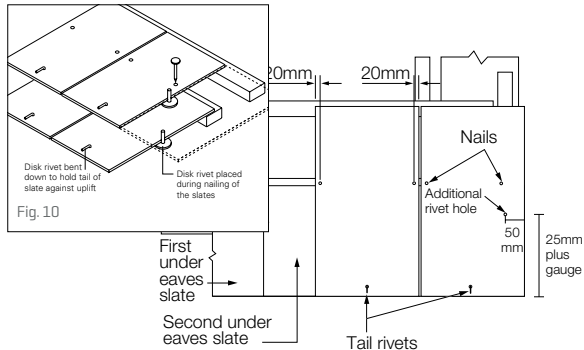

Fig. 8 - 1st course of standard slates
- 5 Fix the first course of full size slates. At the verge, another 4.0mm dia. hole is required to allow for the copper disc rivet for the next course. This is drilled 50mm from the outside edge of the slate, and 25mm plus gauge from the bottom edge or tail (Fig. 8). The rivet must be inserted before the slate is nailed.